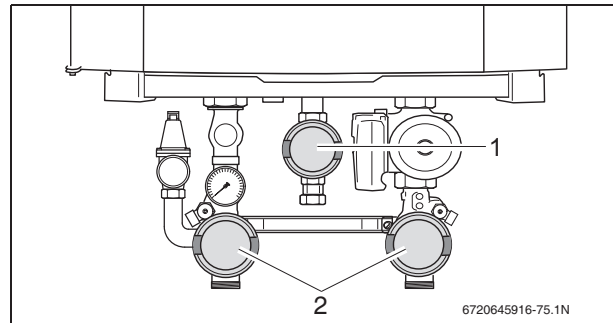

Fig. 74 Closing the valves (here: in closed position)
- Close the gas valve (fig. 74, [1]).
- Close the isolating valves (fig. 74, [2]).